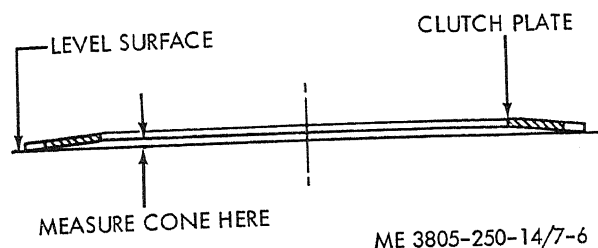

Figure 7-6. Measuring clutch plate cone.
(1) Clean all parts with solvent and dry with compressed air or clean lint free cloths. Flush bearings thoroughly to remove packed deposits in the races. After cleaning allow the bearings to air dry. Do not spin bearings or use compressed air to dry them, as damage due to lack of lubrication may occur. Use a soft wire to clean oil passages in the transmission components, and flush thoroughly with cleaning solvent.
(2) Inspect the clutch plates for cracks, burrs, scoring, galling, distortion, cone, and wear. The amount of cone is determined by measuring the distance between the inside diameter of the plate and a level surface. Refer to figure 7-6. Friction faced clutch plates are 0.153 ± 0.003 inch thick with permissible wear of 0.020 inch. Allowable cone is 0.012 inch. Steel clutch plates are 0.115 ± 0.008 inch thick with permissible wear of 0.010 inch. Allowable cone is 0.030 inch. Minimum clutch pack thickness for the high range clutch is 0.357 inch. Minimum clutch pack thickness for the low range clutch is 0.681 inch. Minimum clutch pack thickness for the reverse range clutch is 1.185. Replace plates having the most wear with new plates to increase clutch pack thickness.